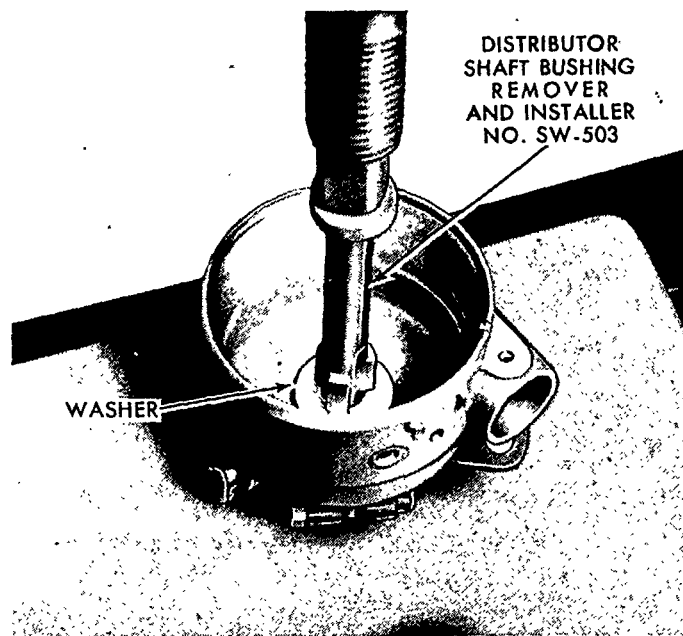

Figure 67
1. Coat a new distributor shaft bushing with oil and install it in the distributor base using Distributor Shaft Bushing Remover and Installer No. SW 503, (where available) as shown in Figure 67. To prevent damaging the bushing, use a flat washer under the shoulder of the tool.